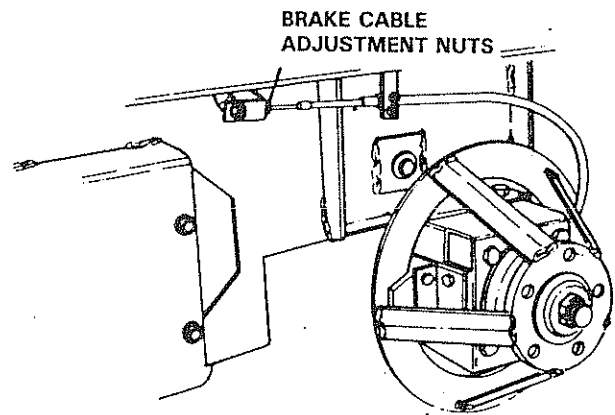

FIGURE 13
2. Adjust brake by loosening nuts on brake cable and shortening length of cable. (See Figure 13).